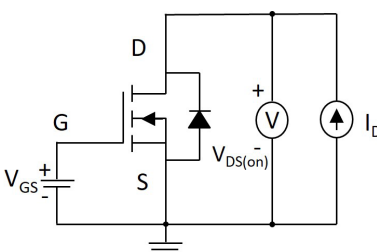

**Figure 9. Circuit Diagram to Measure Gate Leakage Current**
**Gate leakage current ( $I_{GSS}$ )** refers to the small amount of current that flows between the gate and source when the MOSFET is in an off state. **Figure 9** demonstrates the circuit used to measure the gate leakage current. Initially, the drain-to-source terminal is connected, and then a maximum allowable voltage is applied across the gate and source terminals to monitor the leakage current.